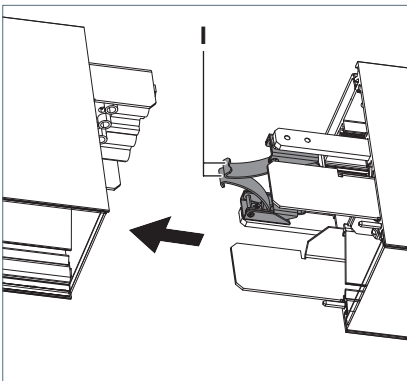

Fig. 23: Assembling the luminaires.
- ▶ Press the brackets **I** together, see Fig. 23.